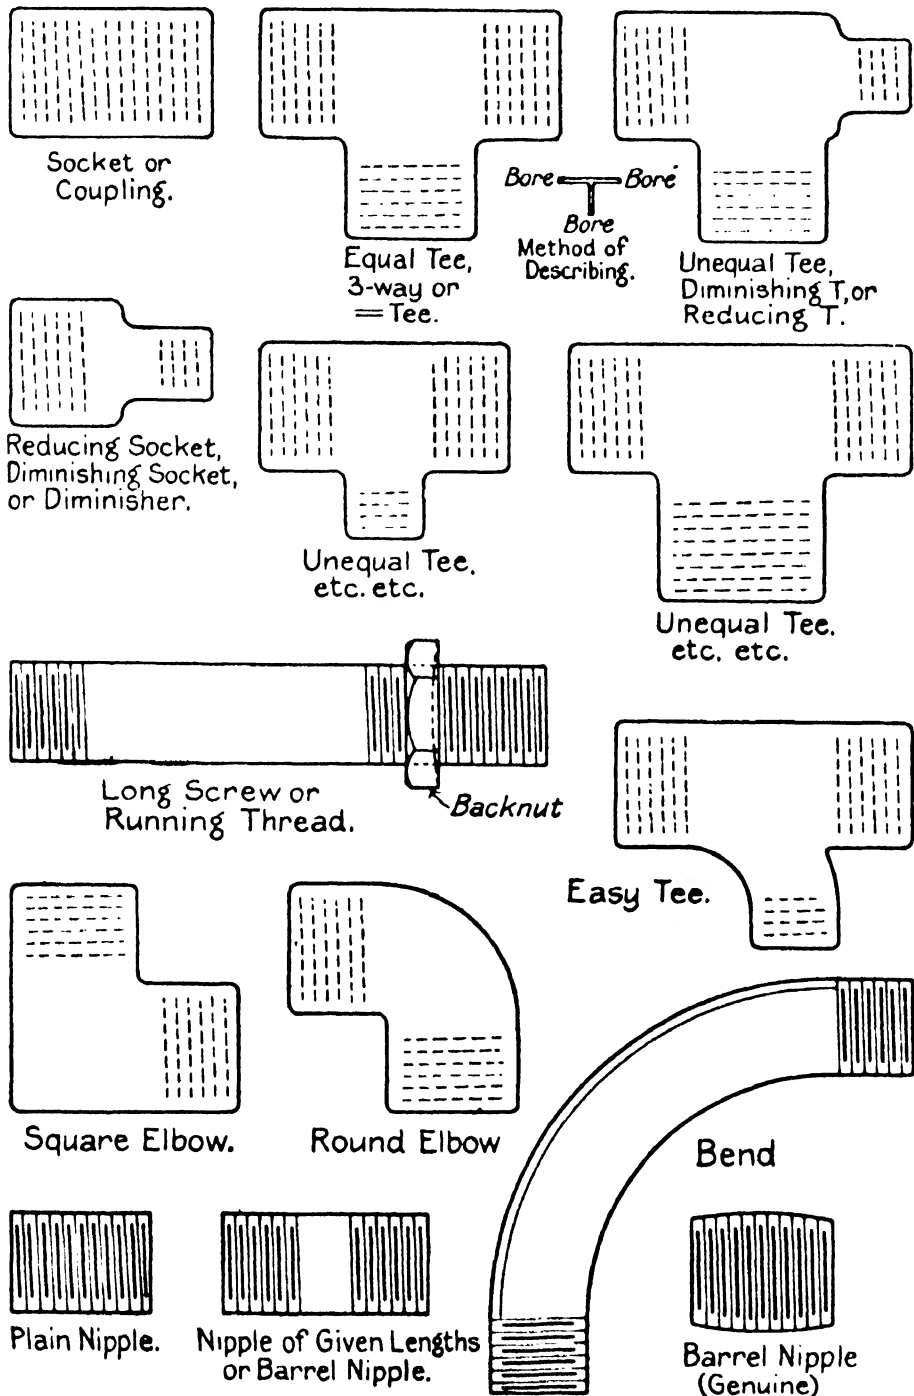
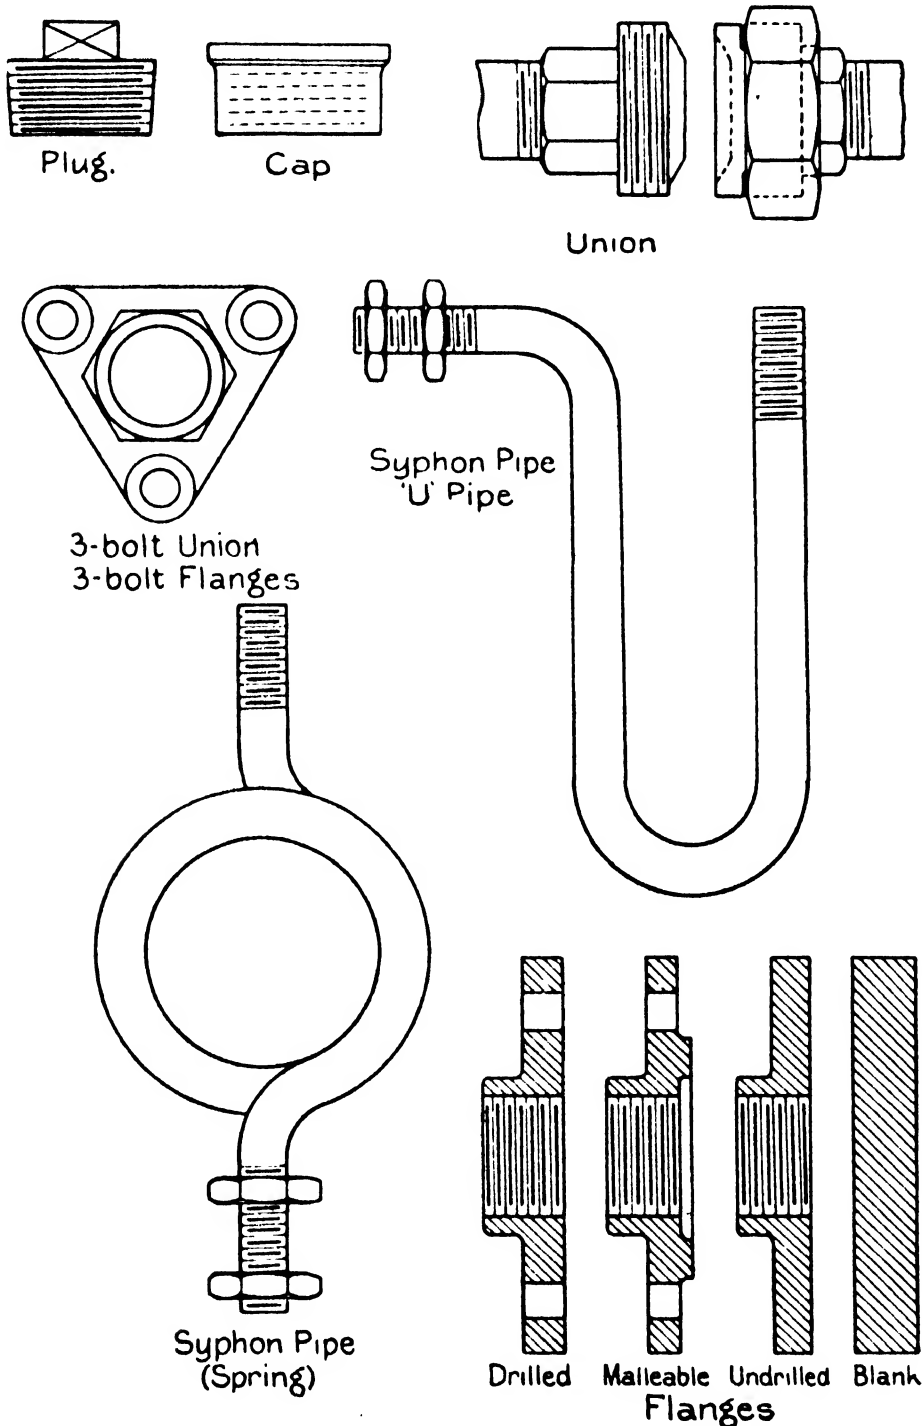

FIG. 86.—The Terms of Common Pipe-Fittings (1).
FIG. 87.—The Terms of Common Pipe-Fittings (2).
**Pipe-fittings.**—There is such a multifarious range of pipe-fittings that to illustrate them all would occupy the pages of a book devoted entirely to pipes and accessories. The accompanying sketches (Fig. 86) are given in diagrammatic form by way of explanation to the uninitiated reader so that he may grasp the functions of the fittings mentioned. They are known by the names attached, the first one being the socket or coupling, for connecting the ends of straight pipes. The Tee or T, is a socket with a branch attached, and there are many different sorts. The equal T is of course understood; the unequal ones are numerous in their styles, those shown being common examples. The method of ordering unequal Ts is as shown, and is simple to understand; this method also applies to other unequal styles, such as four way or X (cross) and Y shaped ones. The diminishing socket one cannot go wrong with. The T mentioned as an Easy tee is intended to ease the change in the direction of the flow of liquids, and is usually made of cast or malleable iron.
**Male and Female Threads.**—The diagrams (Fig. 86) show the fittings as male and female, and as will be observed all sockets, Ts and elbows are female connections, whilst the bends and nipples are male. The former have a larger bore than the latter, and this fact will have to be borne in mind by the tyro when selecting a fitting from stock. The plug and cap shown in Fig. 87 are for stopping the ends of pipes. The former is often used in general work, but the cap is not. These two also illustrate the male and female parts. The plug of course will need a socket or similar fitting to receive it; its usefulness is in plugging branches on a range that is being fixed, as will be readily understood. In passing it may be said that the blacksmith can make an effective plug from a few inches of pipe by welding the end to a point. Plugs up to 2 in. in diameter can be made this way; beyond that the acetylene-welder can make up the end with a disc of plate. It may in the latter case be more expedient to fit a flange and blank up the end, but that is a question of what fittings are available.
**Pipe Unions.**—The union is a common means of connecting pipes that are required to be detachable. There are several patterns, the one shown (Fig. 87) being the most
**Three-bolt Unions.**—There is also the 3-bolt union (Fig. 87), or 3-bolt flange as it is often described. Really the latter is incorrect, because there is a malleable iron fitting for hand-rail bases of the 3-bolt flange order, but it is not a union.
**Pipe Flanges.**—In Fig. 87 four types of flanges in common use are shown in section; a few points relative to these and which will be indicative of the general order are given here. There is a great difference in flanges in all respects except in the bore—that feature alone is constant. All flanges should be faced, those supplied by reputed makers will be, but others may not. Drilled flanges have the bolt-holes
**U and Syphon Pipes.**—The U-pipe refers to any pipe shaped like the letter, although it is usually inferring a pressure-gauge fitting. It is often referred to as a return bend, because of its adoption for the return at the end of a pipe line, as in heat pipes, brine pipes, etc. The stock pattern of U-pipe for a pressure-gauge is shown in Fig. 87, and is commonly known as a “syphon.” Another form of pressure-gauge pipe is also shown; it consists of one or more complete circles and it is known as the “spring” pipe. The function of these is to arrest shock, and in addition to this the pipes when fitted to boiling processes and steam pressure work hold cold liquid. On the top of these pipes the gauge cocks are fitted so that the gauges can be isolated for removal if necessary.